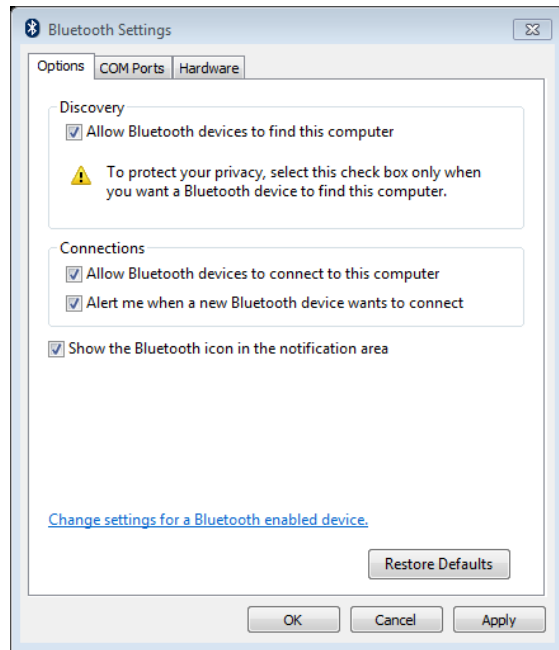

Figure 3-6
1. Search Bluetooth in Start on PC, and then click to Change Bluetooth Settings and change settings as shown in Figure 3-6.